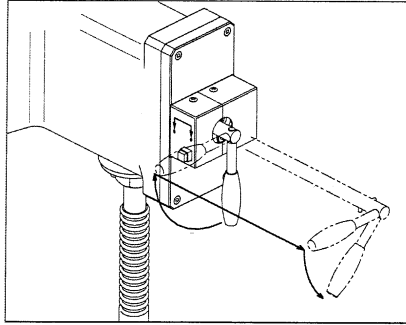

Figure 2. Operation of the Sample Exchange Door
2. Turn the **Isolation Valve Control handle** 90° clockwise or outward toward you (See Figure 2).
2. Turn the **Isolation Valve Control handle** 90° clockwise or outward (see Figure 2).